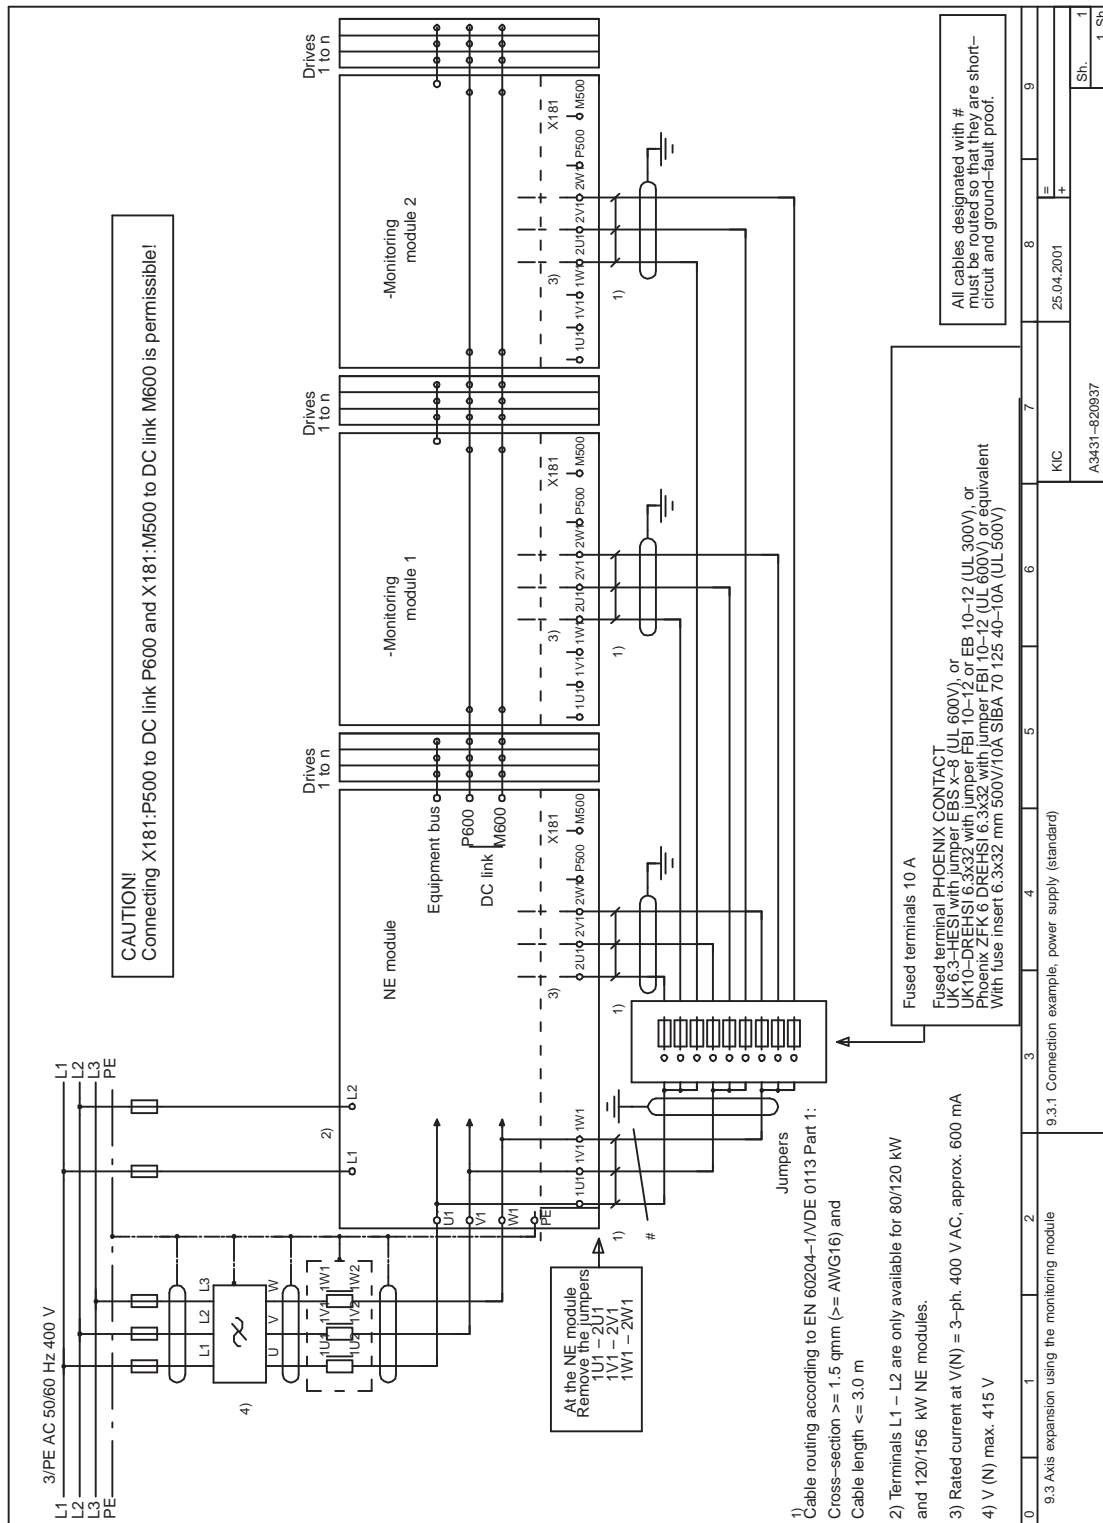

Fig. 8-4 Connection example, power supply (standard)
- Connection example, power supply (standard) —> refer to Fig. 8-4.